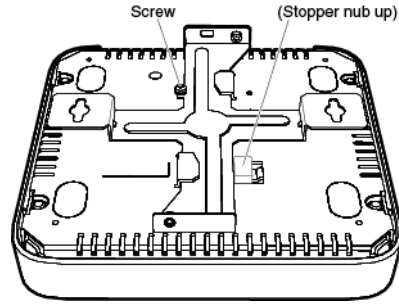

Figure 9. Attaching the Mounting-Bracket Screw
4. Attach the mounting-bracket screw through the notch in the mounting bracket to the access point, as shown in Figure 9 on page 33: The bracket is fastened to the access point.